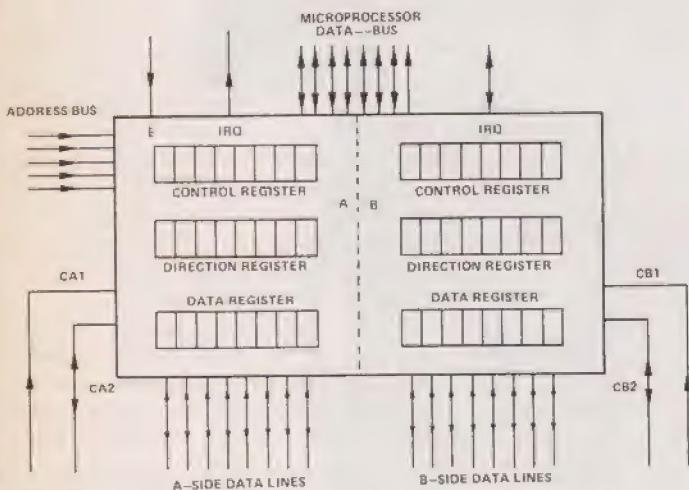

Figure 3 The Motorola PIA.
- INTERNAL ADDRESS wires to select a particular location, the number of them depending on the memory capacity. Thus the RAM shown in Figure 3 has seven, allowing 128 different address codes. They are labelled A0 to A6 and connected to the corresponding lower-order address lines on the microprocessor address bus. The ROM requires ten internal address wires, labelled A0 to A9 in order to select any one of 1024 address codes. These are also connected to the corresponding lower-order lines on the address bus.
Figure 3 shows the interface presented to peripherals by the Motorola PIA, which is a good example of a memory mapped I/O port.